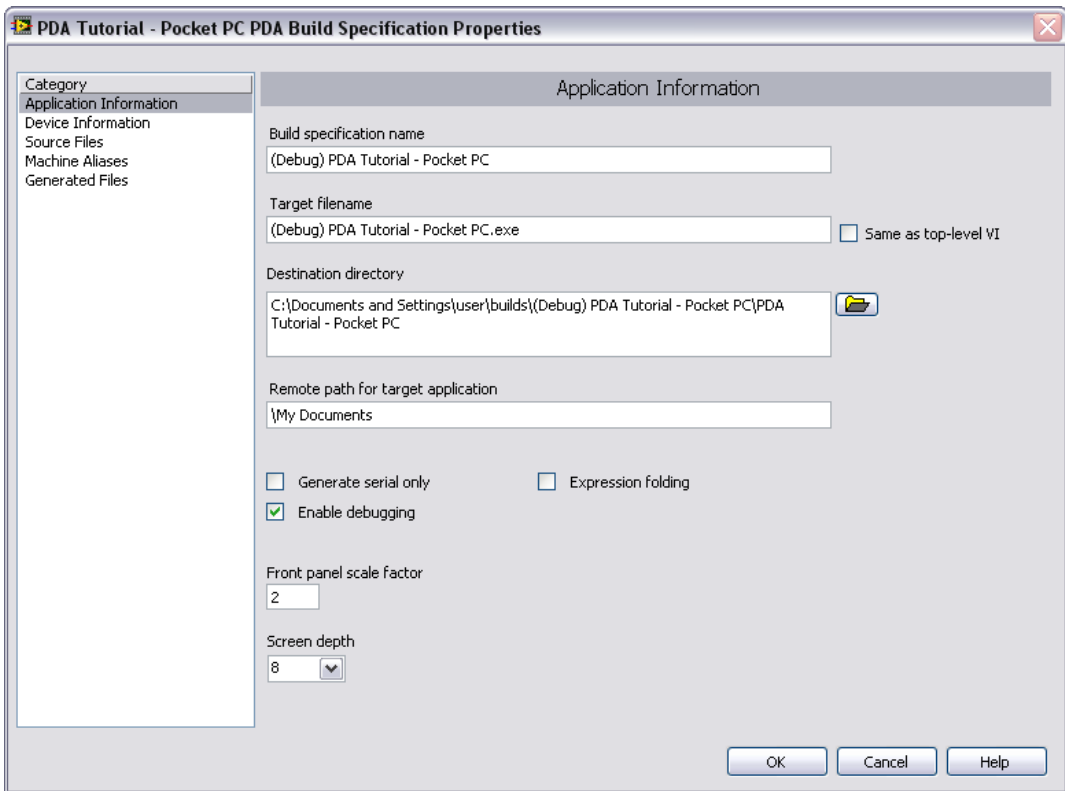

Figure 7. Creating the Debugging Build Specification
5. Place a checkmark in the **Enable debugging** checkbox to generate debugging information when you build the PDA VI into a PDA application as shown in Figure 7.